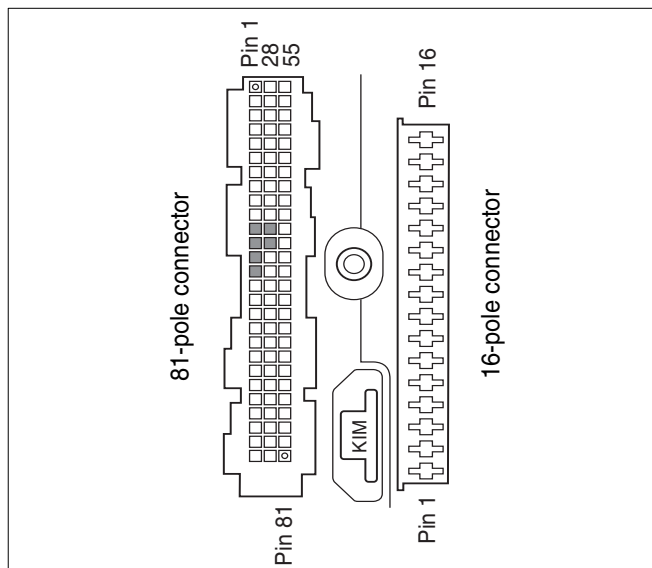

Fig. 58 UBA3 installation base
- Check the cable between the plug and socket connection and the 81-pole plug in the UBA3 installation base (see fig. 58) using a circuit continuity testing device.